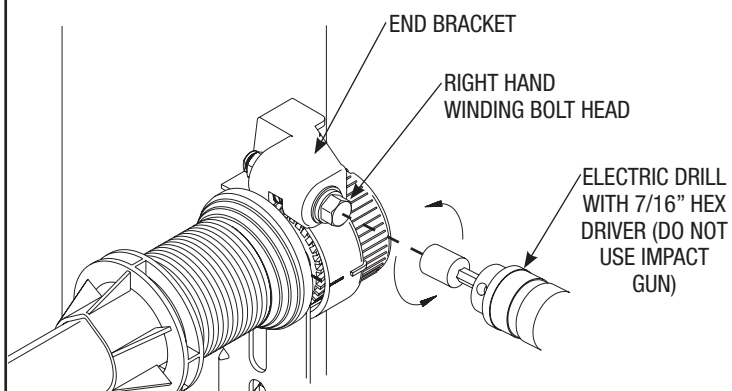

Fig. 2
**Step 2:** Using an electric drill (High torque / gear reduced to 1300 rpm preferred) with a 7/16" hex head driver, unwind the right hand winding bolt head counterclockwise (Fig. 2) and count the number of turns the mark on the drive gear passes the adjacent mark on the end bracket. Referencing the chart below, by door height, stop unwinding the spring once the counted turns have reached the listed number of turns.